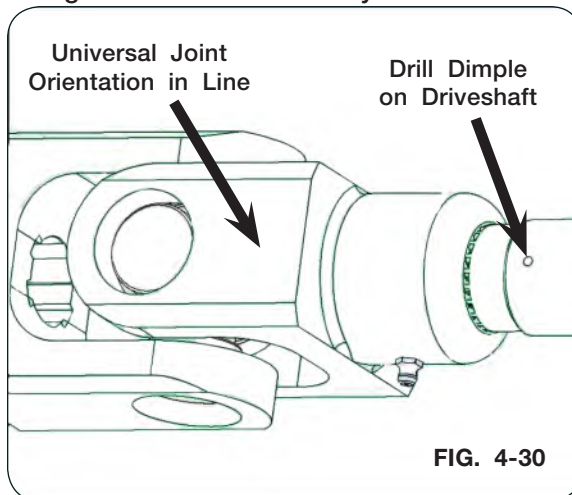

FIG. 4-30
14. For alignment of the yoke, the orientation of the universal joint at the gearbox **MUST** be in line with the driveshaft drill dimple when the driveline assembly is attached. (Fig. 4-30, 4-31, and 4-32)
15. With bearing mounting hardware completely tightened, drill a setscrew dimple in the drive-shaft by going through the bearing setscrew threaded hole to dimple the driveshaft being careful to not damage threads. Drill the dimple to a depth that setscrews are flush with the bearing prior to applying thread locker and installing setscrews. (Fig. 4-30)